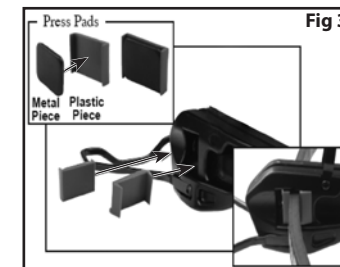

Fig 3
1. Insert the small square metal piece within the plastic press pad. Insert the plastic press pad with the metal facing forwards in the front part of the limb slot (Fig 3).